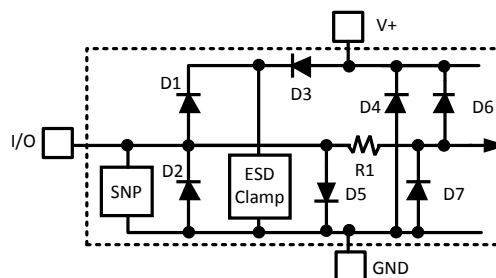

Figure 1. ESD Protection Input Structure
- (1) Absolute Maximum Ratings indicate limits beyond which damage to the device may occur. DC and AC electrical specifications do not apply when operating the device beyond its rated operating conditions.
- (2) When the input voltage (V_I) at any pin exceeds the power supplies (V_I < GND or V_I > V_{DD}), the current at that pin should be limited to 5 mA. Parasitic components and or ESD protection circuitry are shown in Table 1 and Figure 1 for the LM89's pins. The nominal breakdown voltage of D3 is 6.5 V. Care should be taken not to forward bias the parasitic diode, D1, present on pins: D+, D–. Doing so by more than 50 mV may corrupt a temperature measurements.
- (3) Visit www.ti.com/packaging for other recommendations and methods of soldering surface mount devices.
- (4) Human body model, 100pF discharged through a 1.5kΩ resistor. Machine model, 200pF discharged directly into each pin.